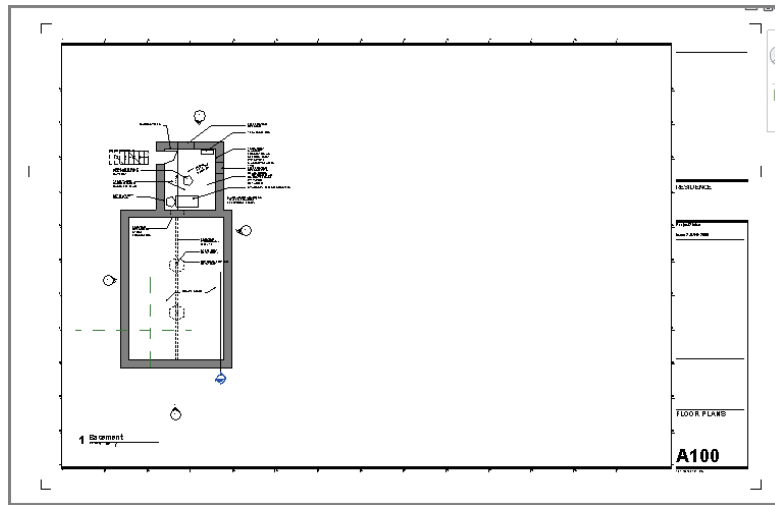

FIGURE 12.15 Placing the view on a sheet
3. Click the sheet once more to complete the placement of the view. Remember, you can adjust the location of the view on the sheet at any time. Figure 12.15 shows the view placed on the sheet.